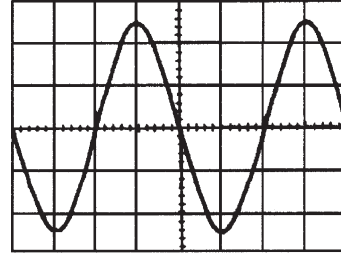

Figure RT3.1
1. A conductor, 25 cm long, is situated at right-angles to a magnetic field. Determine the strength of the magnetic field if a current of 12 A in the conductor produces a force on it of 4.5 N. (3)
2. An electron in a television tube has a charge of  $1.5 \times 10^{-19}$  C and travels at  $3 \times 10^7$  m/s perpendicular to a field of flux density  $20 \mu\text{T}$ . Calculate the force exerted on the electron in the field. (3)
3. A lorry is travelling at 100 km/h. Assuming the vertical component of the Earth's magnetic field is  $40 \mu\text{T}$  and the back axle of the lorry is 1.98 m, find the e.m.f. generated in the axle due to motion. (4)
4. An e.m.f. of 2.5 kV is induced in a coil when a current of 2 A collapses to zero in 5 ms. Calculate the inductance of the coil. (4)
5. Two coils,  $P$  and  $Q$ , have a mutual inductance of 100 mH. If a current of 3 A in coil  $P$  is reversed in 20 ms, determine (a) the average e.m.f. induced in coil  $Q$  and (b) the flux change linked with coil  $Q$  if it is wound with 200 turns. (5)
6. A moving coil instrument gives an f.s.d. when the current is 50 mA and has a resistance of  $40 \Omega$ . Determine the value of resistance required to enable the instrument to be used (a) as a 0–5 A ammeter and (b) as a 0–200 V voltmeter. State the mode of connection in each case. (8)
7. An amplifier has a gain of 20 dB. Its input power is 5 mW. Calculate its output power. (3)
8. A sinusoidal voltage trace displayed on an oscilloscope is shown in Fig. RT3.1; the 'time/cm' switch is on 50 ms and the 'volts/cm' switch is on 2 V/cm. Determine for the waveform (a) the frequency, (b) the peak-to-peak voltage, (c) the amplitude, (d) the r.m.s. value. (7)
9. With reference to a p–n junction, briefly explain the following terms: (a) majority carriers, (b) contact potential, (c) depletion layer, (d) forward bias, (e) reverse bias. (10)
10. Briefly describe each of the following, drawing their circuit diagram symbol and stating typical applications: (a) Zener diode, (b) silicon controlled rectifier, (c) light emitting diode, (d) varactor diode, (e) Schottky diode. (20)